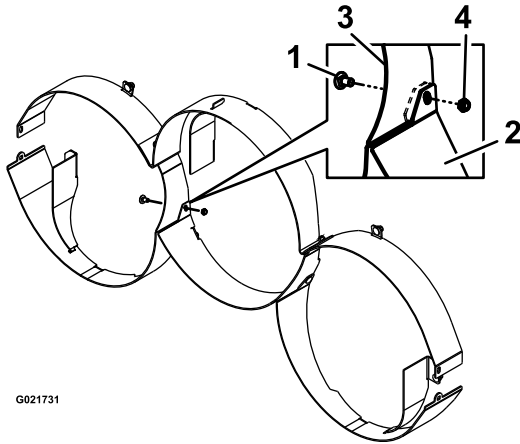

Figure 3
- Install the rear, center baffle using 2 carriage bolts (3/8 x 7/8 inch) and 2 locknuts (3/8 inch) as shown in Figure 3.
Note: This baffle installs between the front, outer baffle flanges (Figure 3).
Note: Where the front, outer baffles, the rear, outer baffles, and the rear, center baffle come together, install 2 carriage bolts (3/8 x 7/8 inch) and 2 locknuts (3/8 inch) as shown in Figure 3.